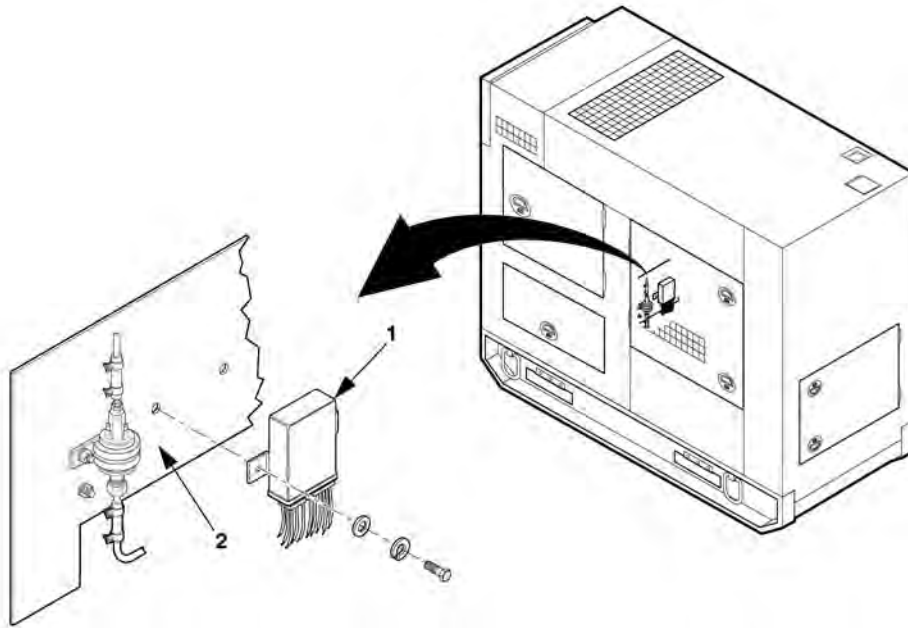

Figure 5-4. Control Unit Assembly
13. Install control unit (1), Figure 5-4, with existing hardware mounted to the output box (2).